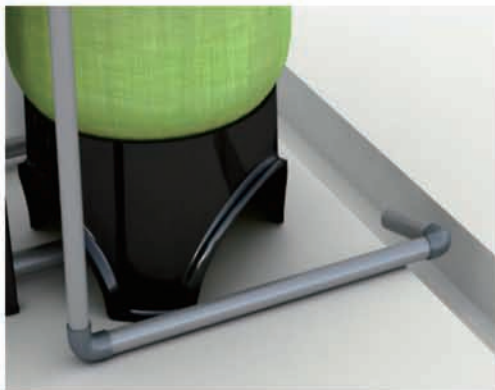

Figure 1-4
- If the valve belongs to time clock type (F111A1, F111B1), there are no step ②.
- ④ Install drain pipeline (If no special requirement, the standard DLFC is No.7704)
- Glue the drain outlet with UPVC (DN40). Put drain outlet pipe to sewer as showed in the Figure 1-4.